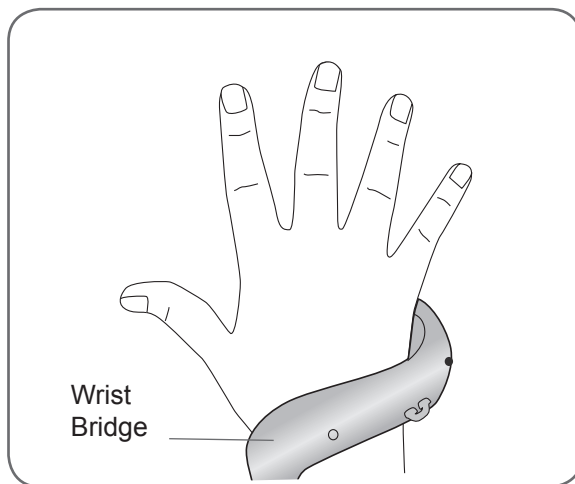

Figure 8-10: Positioning the wrist bridge.
2. Position the Orthosis wrist bridge comfortably on the back of your wrist. See Figure 8-10.